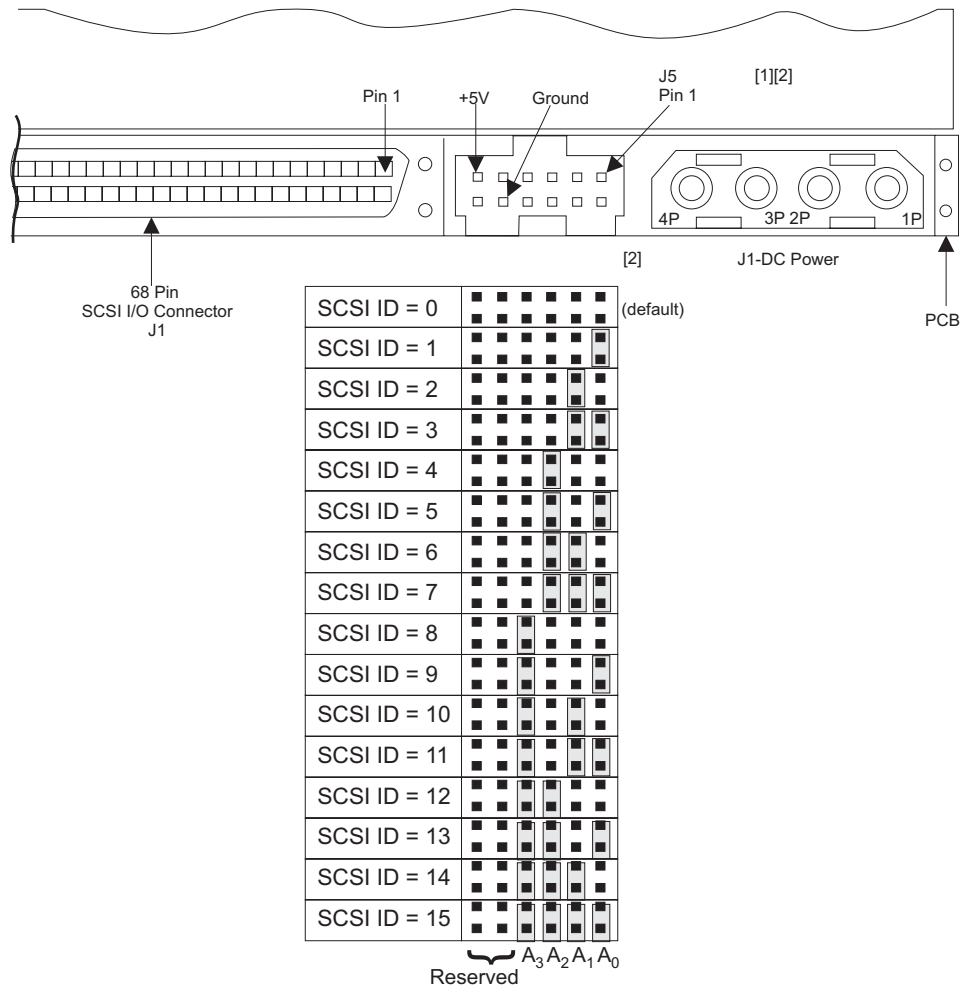

Figure 44. Disk drive jumpers
9. Check whether the old disk drive has any jumpers installed. If it has, install matching jumpers onto the new disk drive. See Figure 44.